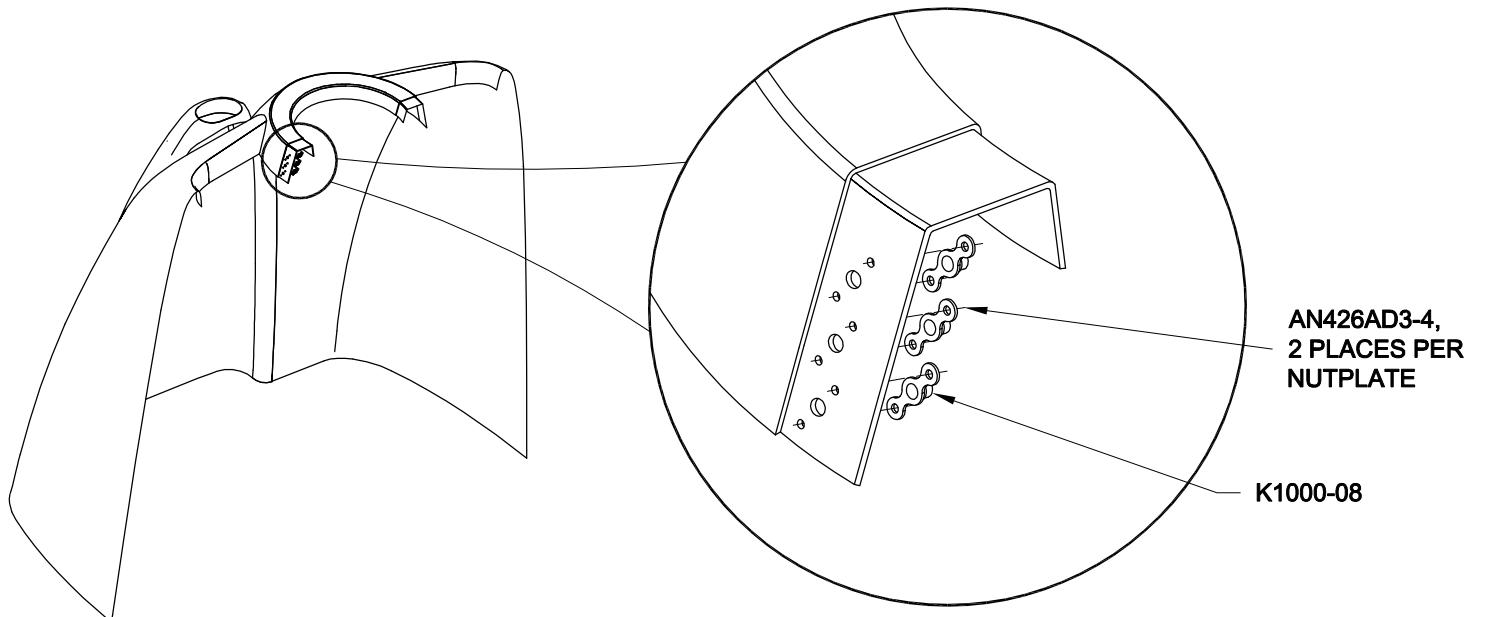

FIGURE 1: INSTALLING NUTPLATES
Step 2: Use a #8 screw to align a nutplate with one of the six screw holes that attach the top and bottom cowls together on either side of the spinner opening. Match-Drill #40 the nutplate attach holes into the flange on the bottom cowl. Machine countersink the holes just drilled. See Figure 1. Repeat this step for the five remaining screw holes.
Step 3: Rivet six nutplates to the bottom cowl flange per the hardware callouts given in Figure 1.